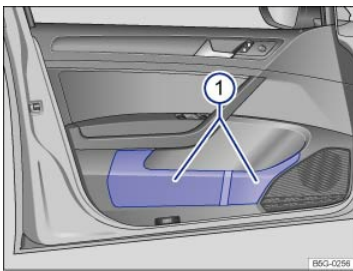

Fig. 117 In the driver door: Storage compartment.
There is a storage compartment in each vehicle door ⇒ Fig. 117①.